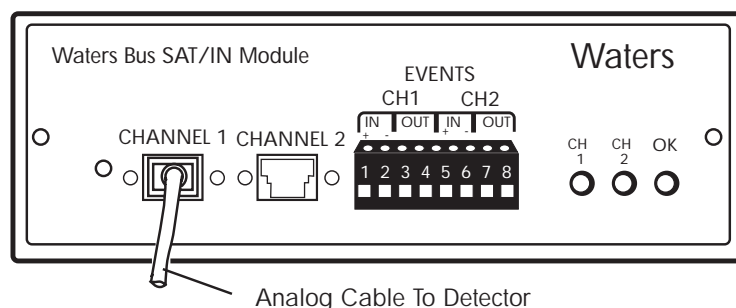

Figure 2-2 Connecting Bus SAT/IN to Detector
1. Insert the one end of an analog cable into the CHANNEL 1 port on the Bus SAT/IN module (Figure 2-2).